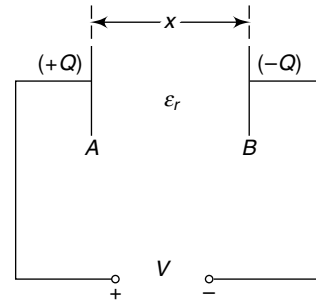

Fig. 1.16 Parallel-plate capacitor
Let us consider two identical plates A and B are kept in close proximity and parallel to each other and separated by a dielectric medium of thickness (x) metre and relative permittivity (ϵ_r) (Fig. 1.16). Let us connect the parallel plates with a potential difference (V) volts and we assume (Q) coulombs of charge is accumulated by the parallel plate combination acting on a parallel plate capacitor. The electric flux is ψ is due to (Q) coulombs and the area of each plate is considered to be (A) square metres.